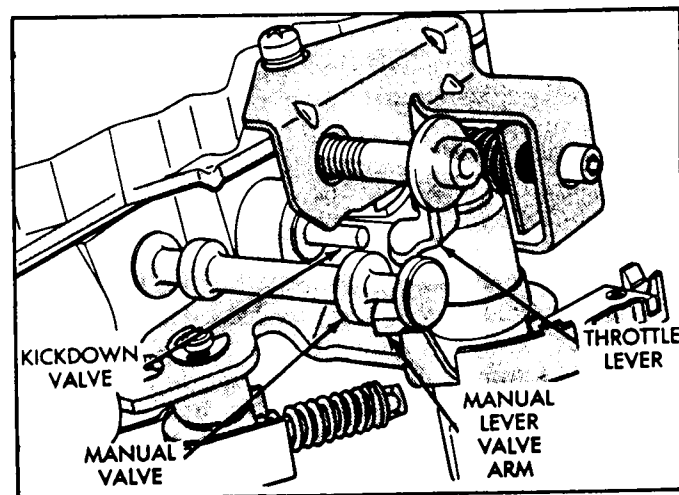

Figure 111
44. Ensure that manual lever is aligned with detent ball and engaged properly into the manual valve, as shown in Figure 111.
49. Verify again that the throttle lever is aligned with end of kickdown valve stem, and that manual lever arm is engaged in manual valve (See Figure 111).